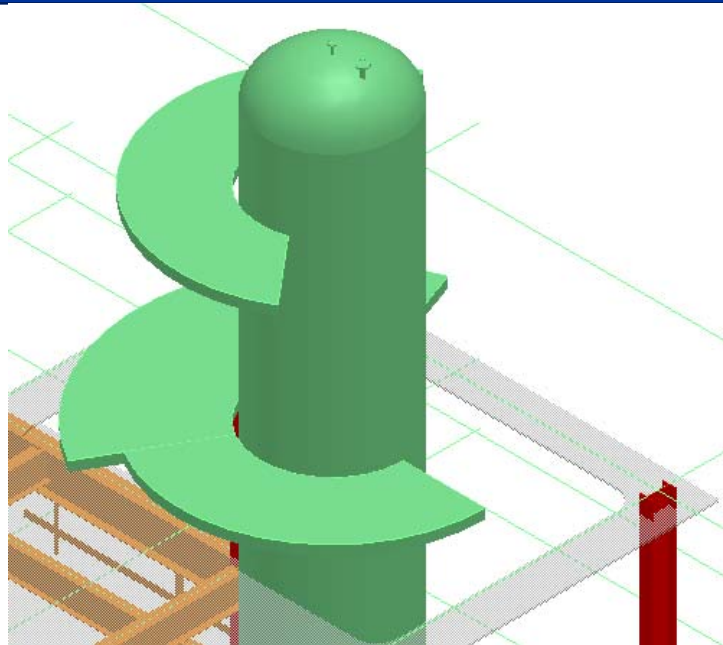

Figure 28: The Vessel Platform (Platform-02)
21. Click **OK** on the **Equipment Component Properties** page to place the equipment component (**Platform-02**). The view should resemble Figure 28.